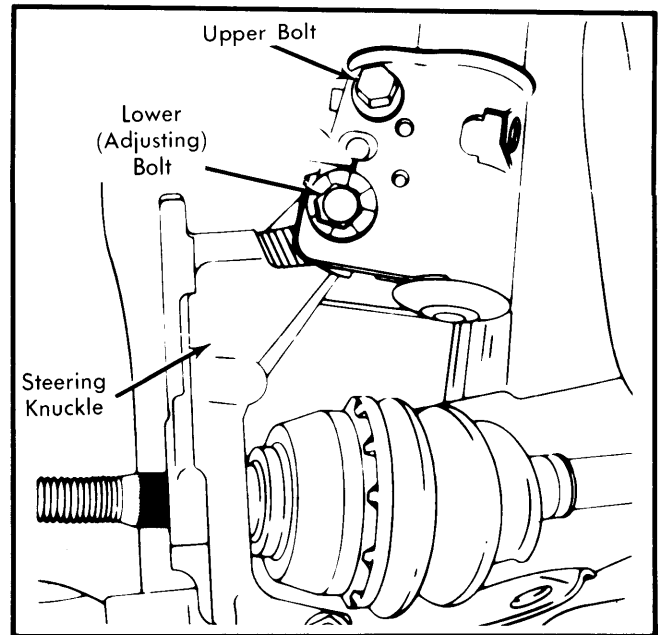

Fig. 32 Camber Adjustment (Omega)
**Omega** — Check camber and turn wheels to gain access to strut attaching nuts. Loosen upper and lower locking nuts enough to allow movement of steering knuckle. Turn wheels straight ahead and rotate cam bolt (lower) to adjust camber. Tighten lock nuts to 140 ft. lbs. See Fig. 32.